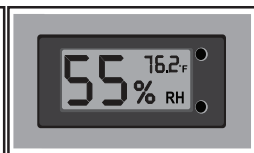

Figure 7.4
4. Position the Display Gauge back over the mounting hole and carefully push back into position (Figure 7.4).